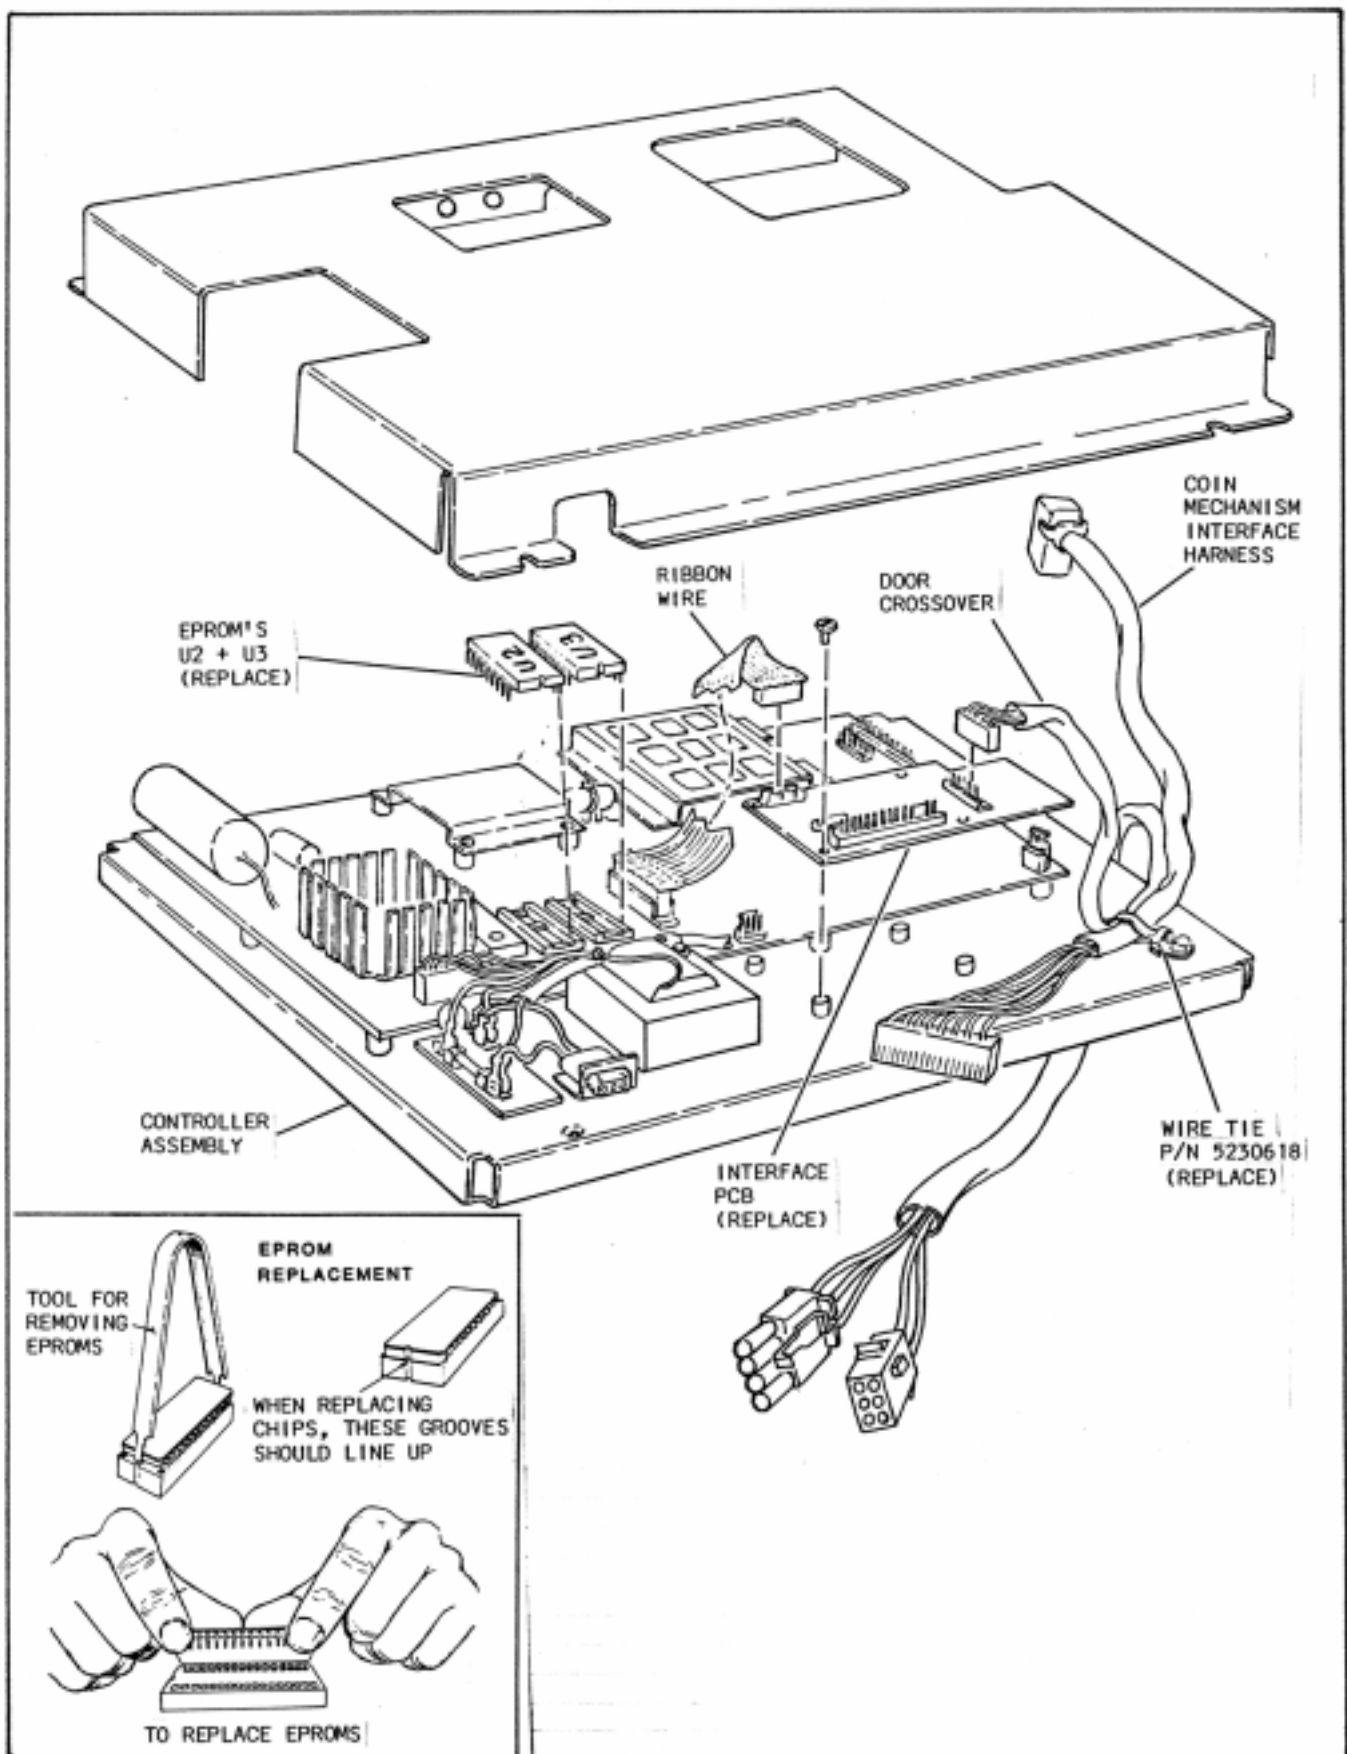

FIGURE 4
- A. Disconnect wire harnesses from controller assembly, (see Figures 4 and 5).